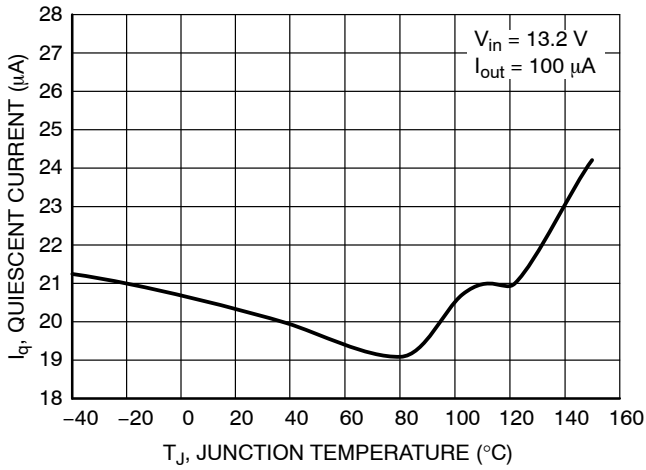
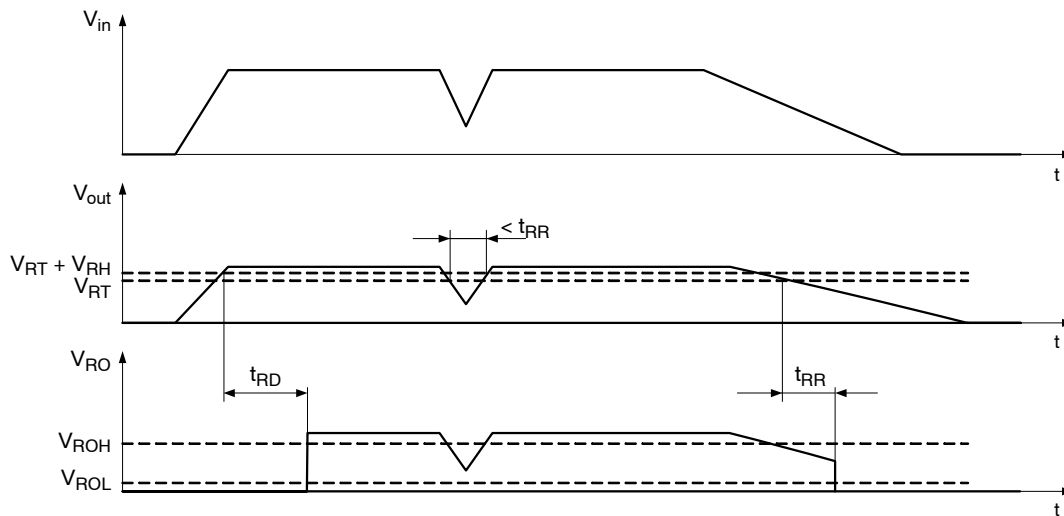

Figure 4. Quiescent Current vs. Temperature
Figure 21. Reset Function and Timing Diagram
The NCV8770 regulator is self-protected with internal thermal shutdown and internal current limit. Typical characteristics are shown in Figure 4 to Figure 21.
A reset signal is provided on the Reset Output (RO) pin to provide feedback to the microprocessor of an out of regulation condition. The timing diagram of reset function is shown in Figure 21. This is in the form of a logic signal on RO. Output voltage conditions below the RESET threshold cause RO to go low. The RO integrity is maintained down to V_{out} = 1.0 V. For 5 V voltage option, the Reset Output (RO) circuitry includes internal pull-up (30 kΩ) connected to the output (V_{out}) No external pull-up is necessary.